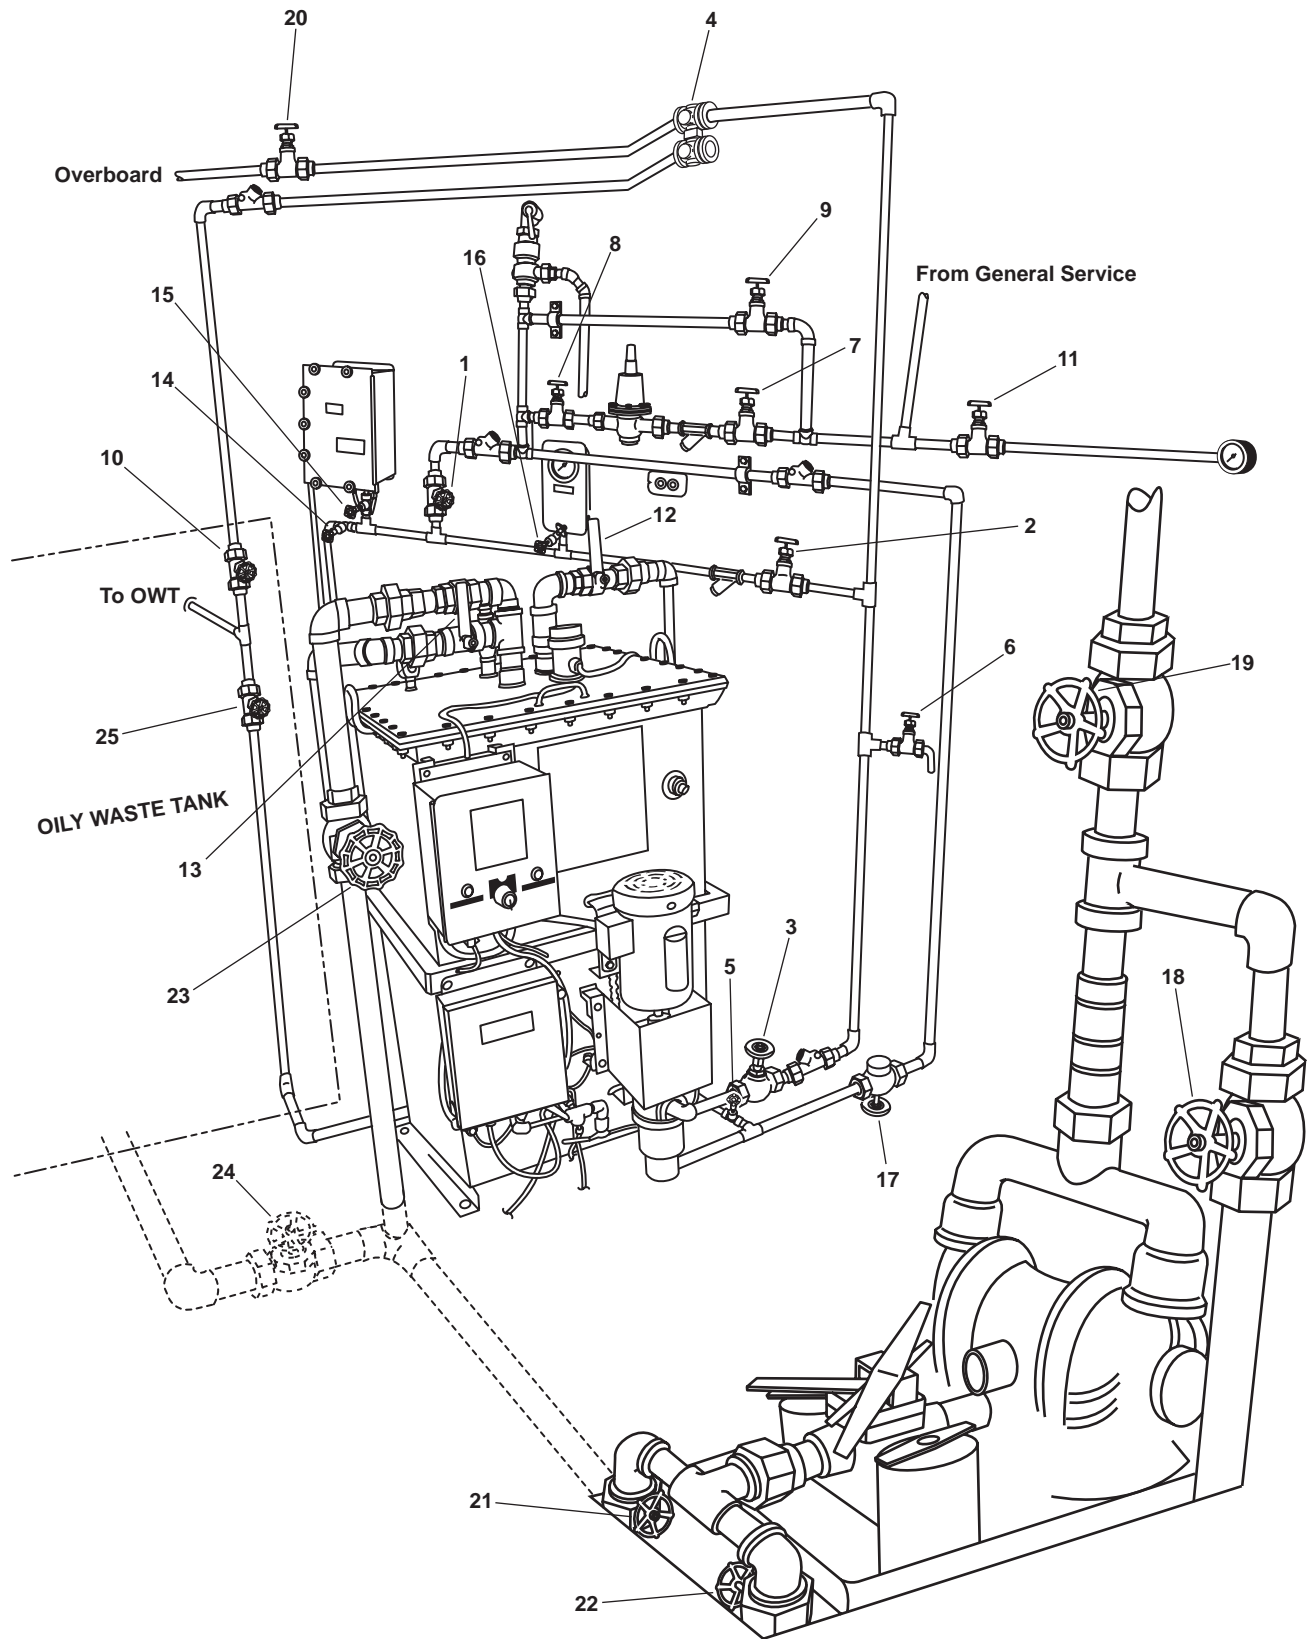

Figure 3. OWS, OB, and OCM Piping
3. Perform OCM backflush by OPENING OCM 2 (figure 3, item 1) and CLOSING OCM 1 (figure 3, item 2). Continue OCM backflush until all liquid from the OCM discharge tube (figure 2, item 2) is clear.